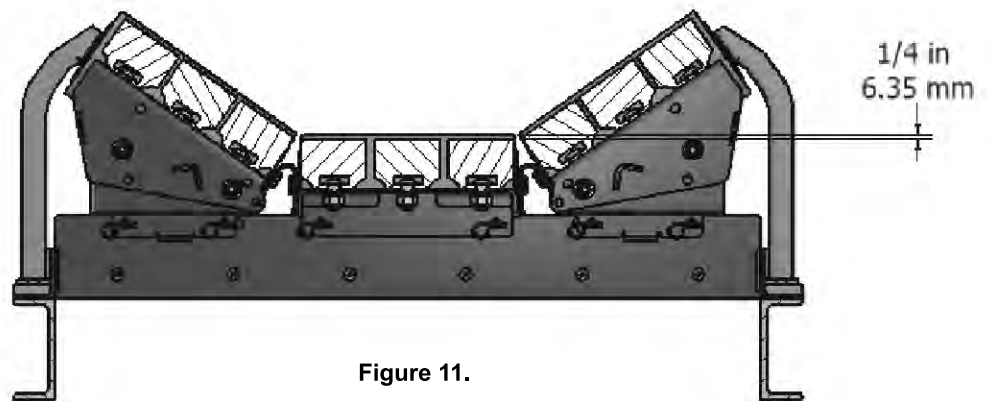

Figure 11.
- 2.) Modular Impact beds are designed to be 1/4" below the bottom surface of the belt as measured at the top of the center roll of the Troughing Idler just before and just after the Modular Impact Bed. It may be necessary to make shims to raise the troughing idlers before and after the Modular Impact Beds, to obtain the 1/4" of clearance (see Figure 11).